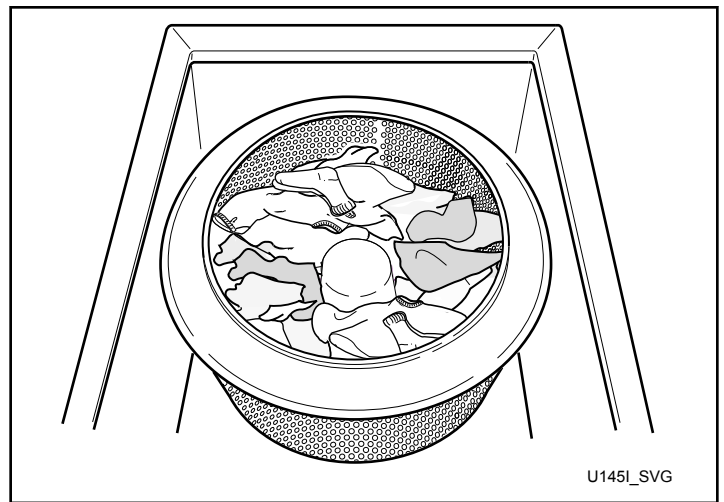

Figure 15
- When cycle is finished, place washables in extract-rinse compartment. Distribute evenly around agitator. Refer to *Figure 15*.